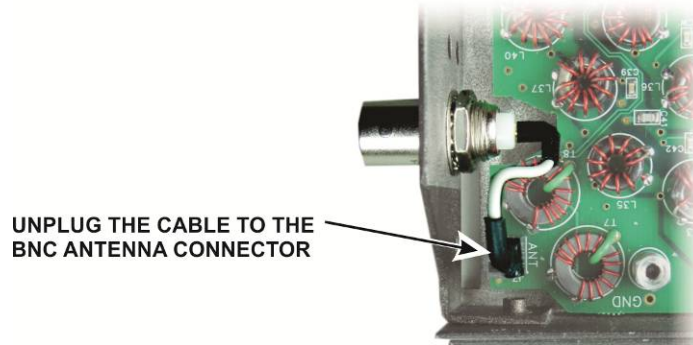

Figure 15. Disconnecting the Antenna Cable from the Main RF Board.
- If you do not have the KXAT3 Antenna Tuner installed, disconnect the HF antenna cable from the main RF board as shown in Figure 15.